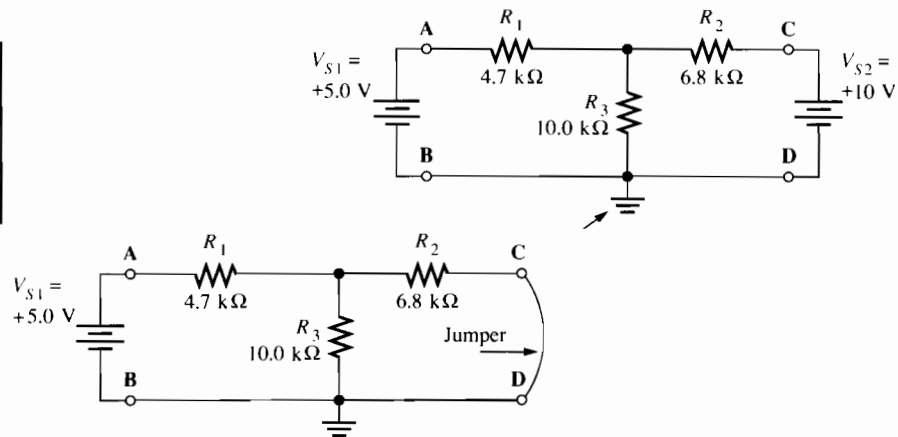

Figure 11–2
2. Construct the circuit shown in Figure 11–1. This circuit has two voltage sources connected to a common reference ground.
Record all three currents as *positive* values in Table 11–2. This will be the assigned direction of current flow. Mark the magnitude and direction of the current in Figure 11–2.